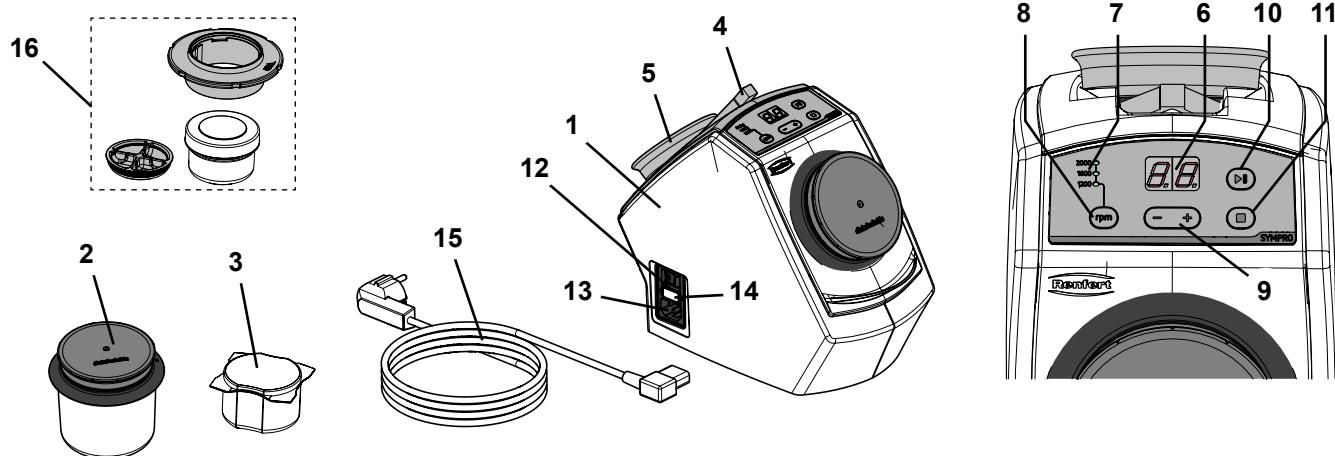

Fig. 1
- ⇒ Place the tweezers supplied with the unit and the retaining magnets in the holder on the back of the appliance (Fig. 1).
- ⇒ Choose a power cable (15, Fig. 1) with the proper plug for your mains supply.
- ⇒ Connect the power cable (13, Fig. 1) to the power supply.
- ⇒ Turn on the appliance at the mains switch (12, Fig. 1).
- ⇒ Fill the cleaning beaker (2, Fig. 1) with 75 g cleaning needles (equivalent to one pack).
- ⇒ Fill the SYMPRO mini-cup (16, Fig.1) with ~ 5 g cleaning needles.
- ⇒ Adjust the cleaning time with the + / - buttons (9, Fig. 1) (range 0 to 30 minutes).
- ⇒ Set the speed using the speed selection key (8, Fig. 1).